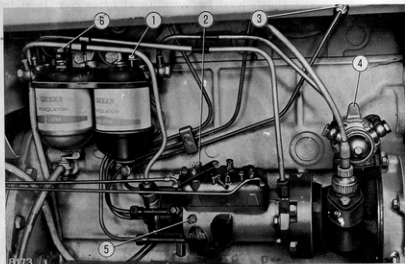

Fig. 6 - Bleeding the Fuel System
- 3 If the tractor was inactive for long or if you are attempting the first cold start, actuate about twenty times the fuel pump priming lever. (See Fig. 6).
This operation should be carried out as described in the following paragraphs with replenished fuel tank and leaving the cock open (See Fig. 6.)